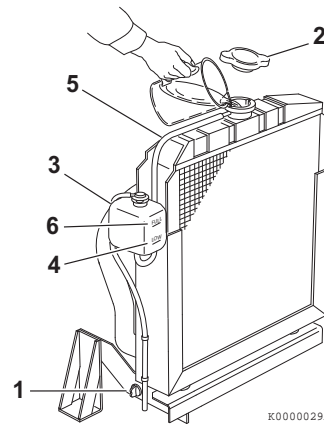
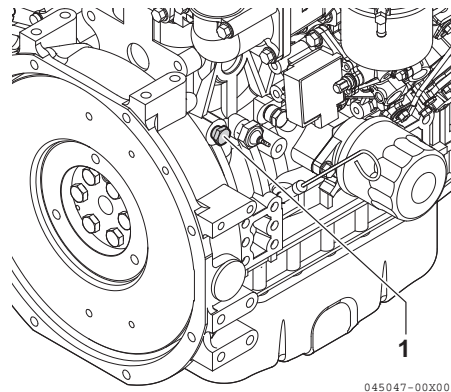

Figure 5
Figure 6
1. Check to be sure the radiator drain plug is installed and tightened or the drain valve (**Figure 5, (1)**) is closed. Also make sure the coolant drain plug (**Figure 6, (1)**) in the cylinder block is closed.
2. Remove the radiator cap (**Figure 5, (2)**) by turning it counterclockwise about 1/3 of a turn.
4. Reinstall the radiator cap (**Figure 5, (2)**). Align the tabs on the back side of the radiator cap with the notches on the engine coolant filler port. Press down and turn the cap clockwise about 1/3 of a turn.
5. Remove the cap of the reserve tank (**Figure 5, (3)**), and fill it to the LOW (COLD) mark (**Figure 5, (4)**) with engine coolant. Reinstall the cap.
6. Check the hose (**Figure 5, (5)**) that connects the reserve tank (**Figure 5, (3)**) to the radiator. Be sure it is securely connected and there are no cracks or damage. If the hose is damaged, engine coolant will leak out instead of going into the reserve tank.
7. Run the engine until it reaches operating temperature. Check the level of engine coolant in the reserve tank. When the engine is running and the engine coolant is at normal temperature, the coolant level in the reserve tank should be at or near the FULL (HOT) mark (**Figure 5, (6)**). If the coolant is not at the FULL (HOT) mark, add coolant to the reserve tank to bring the coolant level to the FULL (HOT) mark.
1. Check the level of engine coolant in the reserve tank. When the engine is cold, the coolant level in the tank should be at or slightly above the LOW (COLD) mark (**Figure 5, (4)**) on the coolant reserve tank.
If the coolant level is at the FULL (HOT) mark (**Figure 5, (6)**) when the engine is cold, the coolant will expand when it becomes hot and possibly spray out of the overflow hose.